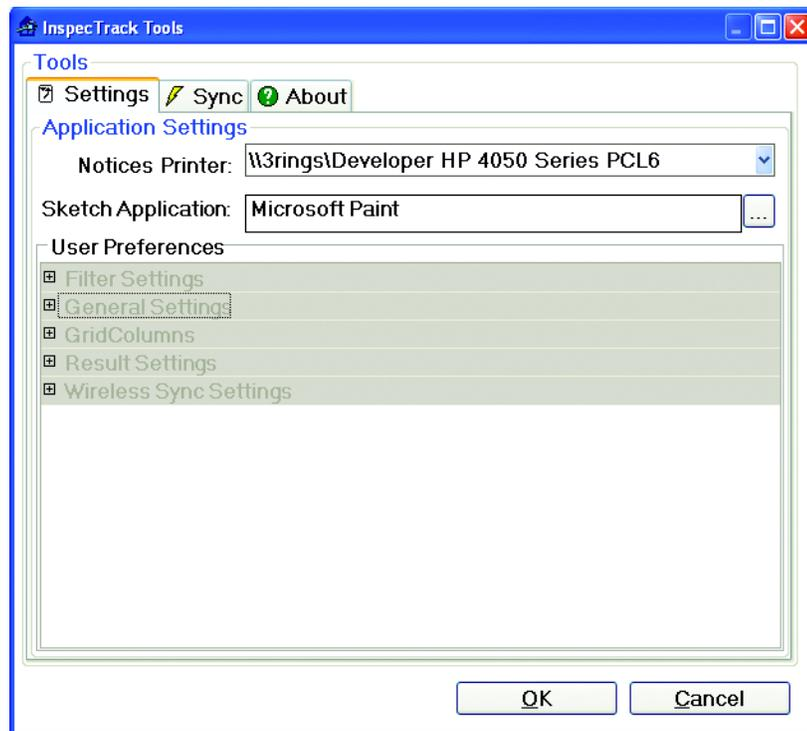

Figure A-5 Tools window with Settings tab displayed
The Tools window opens with the Settings tab displayed (Figure A-5 on page 76).
2. In the Notices Printer field, use the drop-down list to select the printer to which you want to print your notices and reports (see Figure A-5).